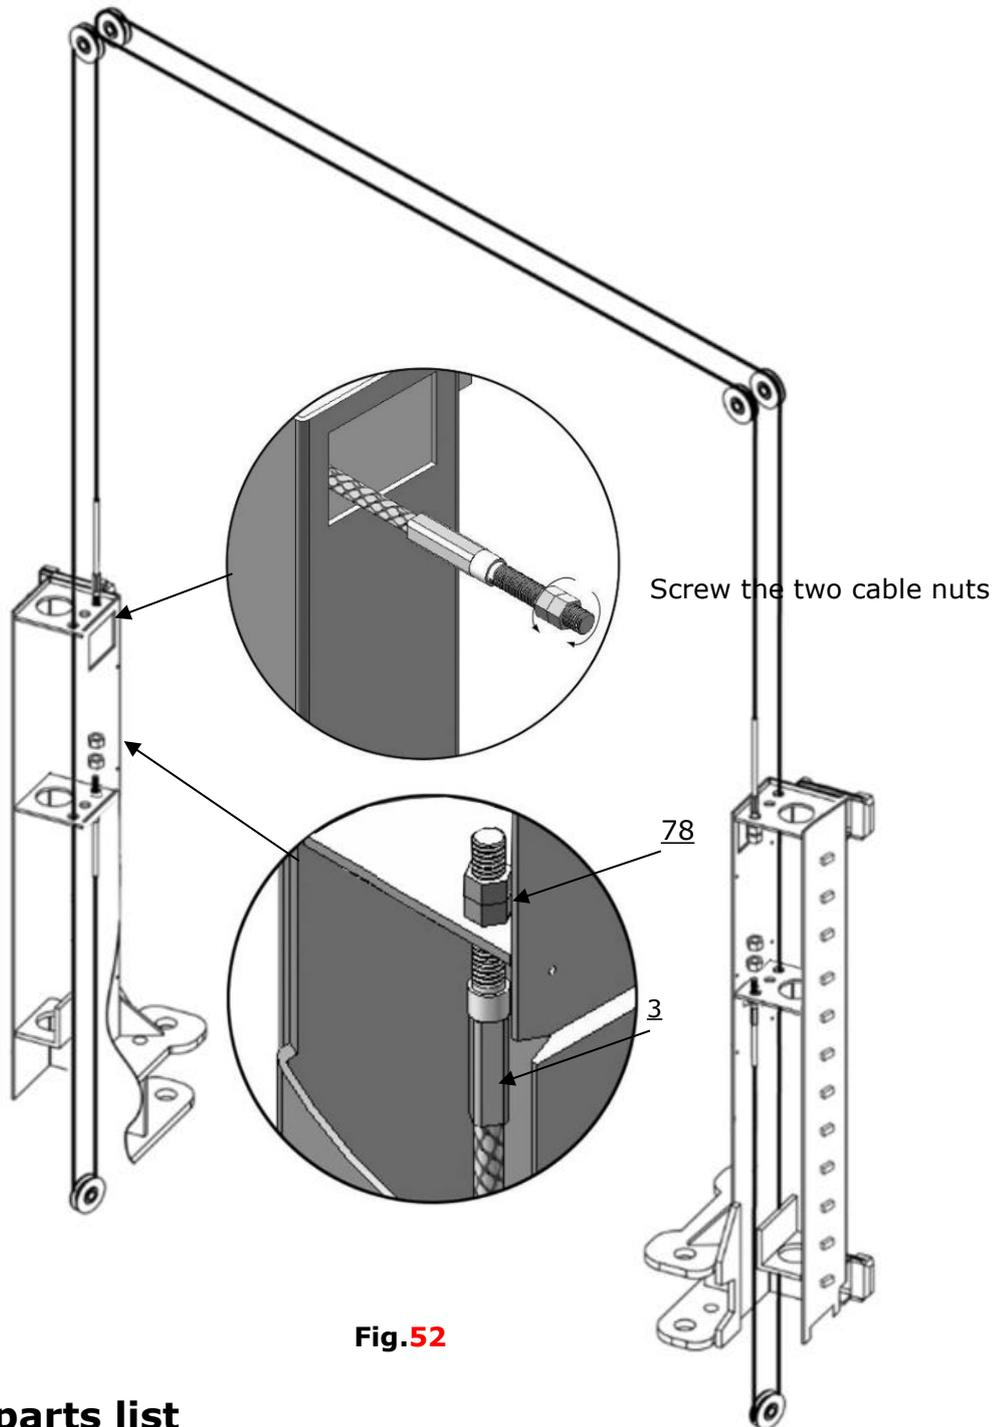

Fig.52
3.3 OHX-10H sync cable assy. connection for high setting (Fig. 52).